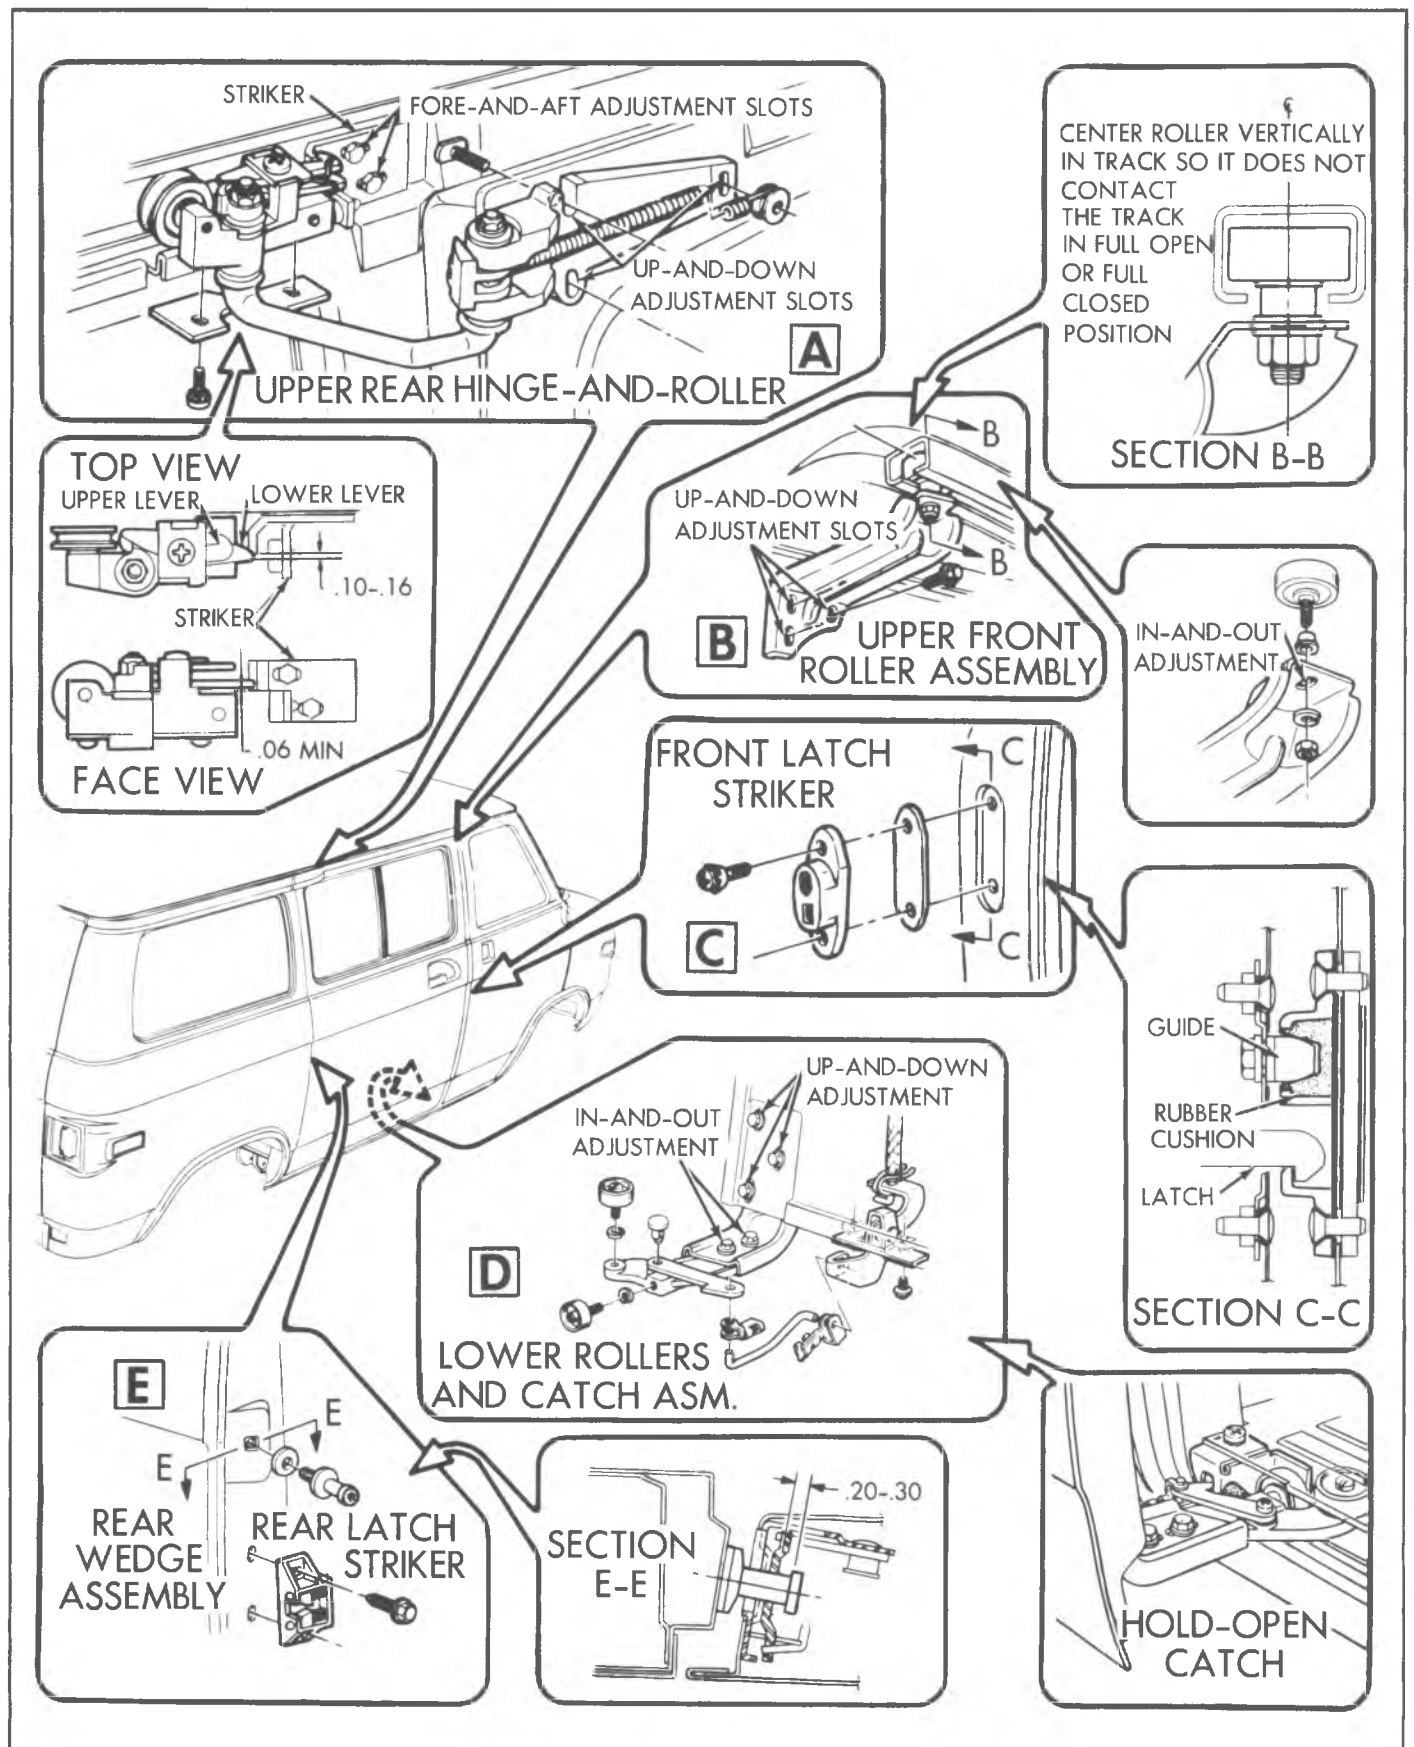

Fig. 21G—Sliding Side Door Adjustment Locations
should have equal clearances around its perimeter. Adjustments for door positioning and proper latching can be made at the locations shown in figure 21G.
Up and down adjustments are provided by means of slotted holes located at the upper front roller, view B of figure 21G; at the lower front catch-and-roller, view D; and at the upper rear hinge-and-roller assembly, view A. To reposition the door up or down:
Front in and out adjustments are provided by means of an adjustable lower roller mounting bracket, view D of figure 21G, and by a slotted upper bracket, view B of figure 21G. Rear in and out adjustment is provided by adjusting the rear latch striker, view E of figure 21G. To position the door in or out:
Fore and aft adjustment is provided at the upper rear hinge striker by means of a slotted bracket mounted to the body, view A of figure 21G.
1. Loosen front latch striker screws, view C of figure 21G.
4. Adjust the striker laterally to match outer panel to the body panel surfaces, view E of figure 21G.
7. Open the door and measure the distance from the rear of the striker head to the impression. The distance should be between .20 inch and .30 inch. Refer to view E of figure 21G.
The upper rear hinge must be positioned as shown in view A of figure 21G, in order to insure proper latching.
This catch, mounted on the lower front roller bracket, holds the door in the full open position. See figure 23G. The catch engages a striker installed at the rear of the lower roller channel, view D of figure 21G.